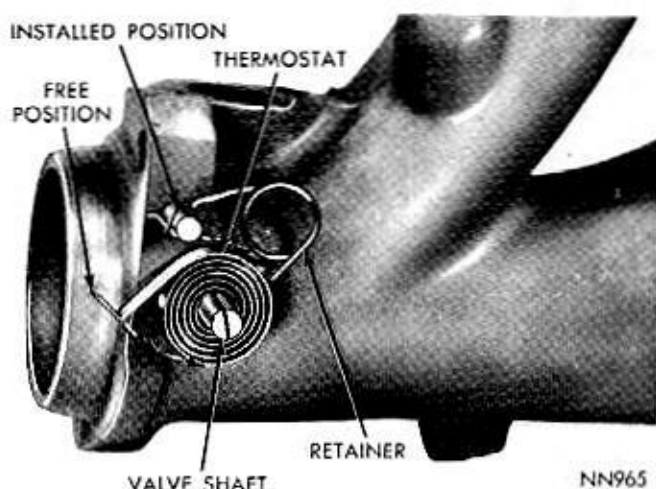
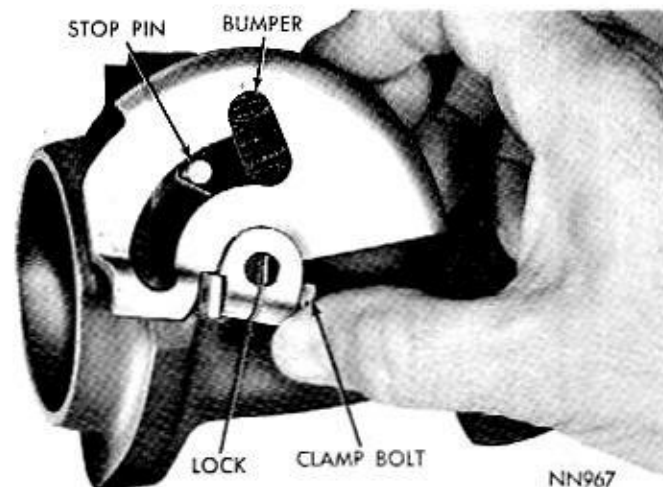

Fig. 16—Installing Thermostat (426 Hemi Engine)
Fig. 17—Installing Counterweight (426 Hemi Engine)
(2) Install a new thermostat in slot in shaft (Fig. 16) with outer end of thermostat in lower left hand position. Press inner end of thermostat into shaft and seat firmly.
(3) Wrap outer end of thermostat **counterclockwise** and engage under stop pin.
(4) Install counterweight on outer end of valve shaft with lock engaged in valve shaft slot and bumper on right hand side of stop pin (Fig. 17).
(5) Tighten clamp bolt to 50 inch-pounds with C-3380 Torque Wrench. Test operation of valve for freedom of movement.